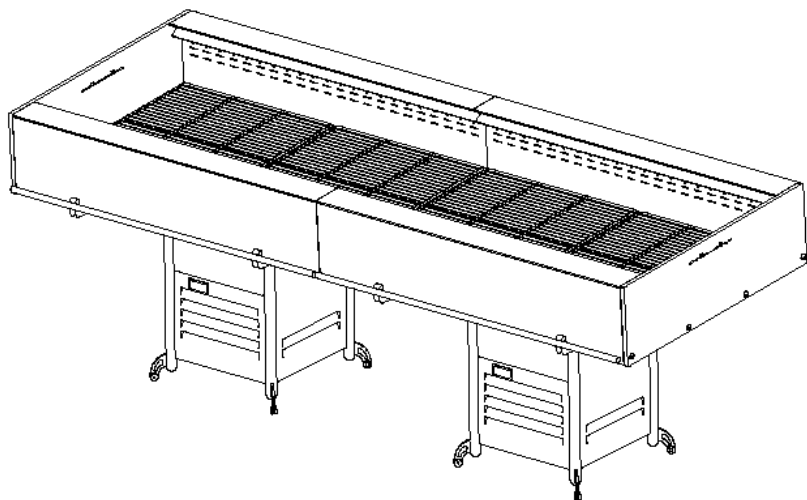

Fig . 1: side multiplexing (picture just for reference)
8.4.1 SIDE MULTIPLEXING FOR *ISOLA* (SELF-SERVE) VERSIONS (FIG. 1)
When side-multiplexing (see fig. 1) the height of the cabinets must be the same.